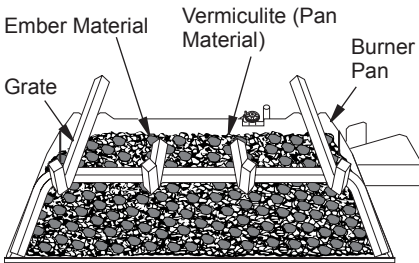

Figure 23 - Ember Material on Surface of Pan Material (Vermiculite) (P325/VP325 Models Shown)
3. Remove the ember material from the bag and flatten small amounts into quarter size pieces and lay on top of the surface of the pan material (see Figure 23, page 15).